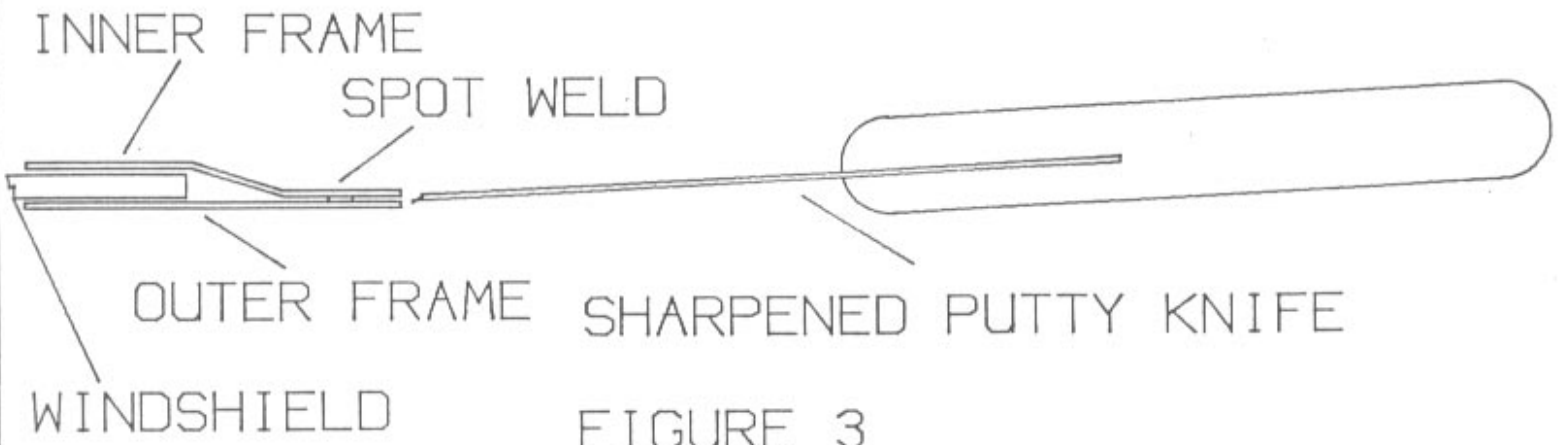

FIGURE 3
- 2B. Drill through the center of each spot weld using a #40 drill bit. Mark each of these holes so that they can be flush riveted back together on the new windshield. After drilling, the welds may be broken with a thin, sharpened putty knife struck sharply with a mallet. See figure 3. Exercise care not to distort the frame. Countersink the outside of the holes that were drilled through the spot welds.